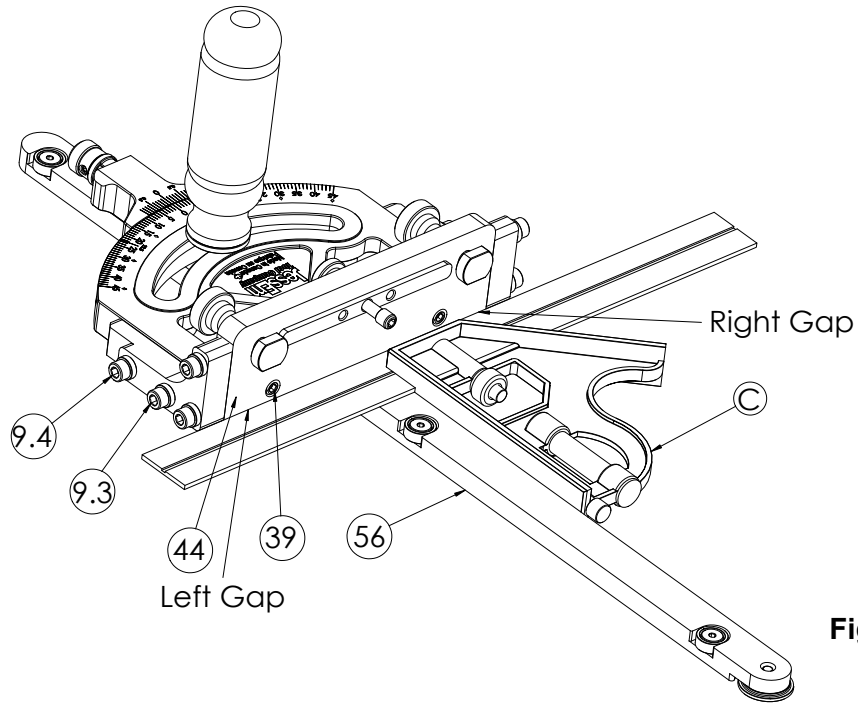

Figure 15
- c. Using a machine/combination square, align the base against the guide bar (Part #56) and the ruler/straight edge against the Fence Mount (Part # 44) See **Figure 15**.